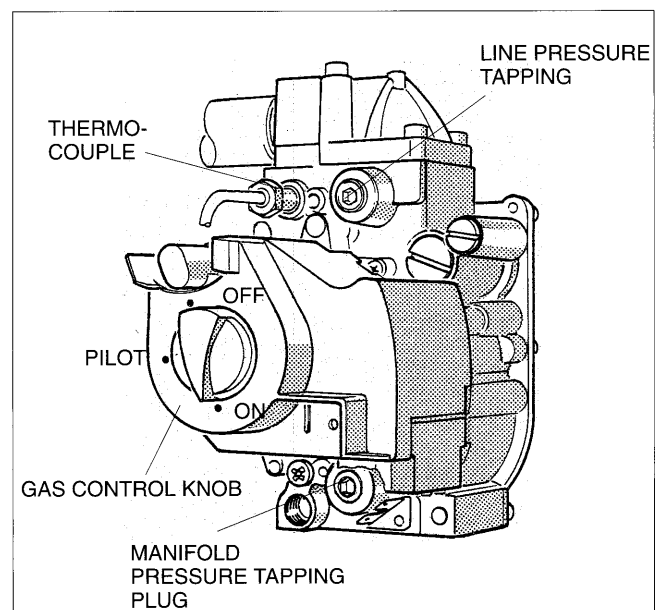

Fig.2
Turn the gas control manual valve clockwise ↻ to the full "OFF" position, fig. 2.
Remove the line pressure tapping plug from gas control, fig. 2; install a test fitting, and hook up a manometer so that line pressure can be checked.
33. Remove the manifold pressure tapping plug from the gas control, install a test fitting and hook up a manometer so that manifold pressure can be checked, fig. 2.